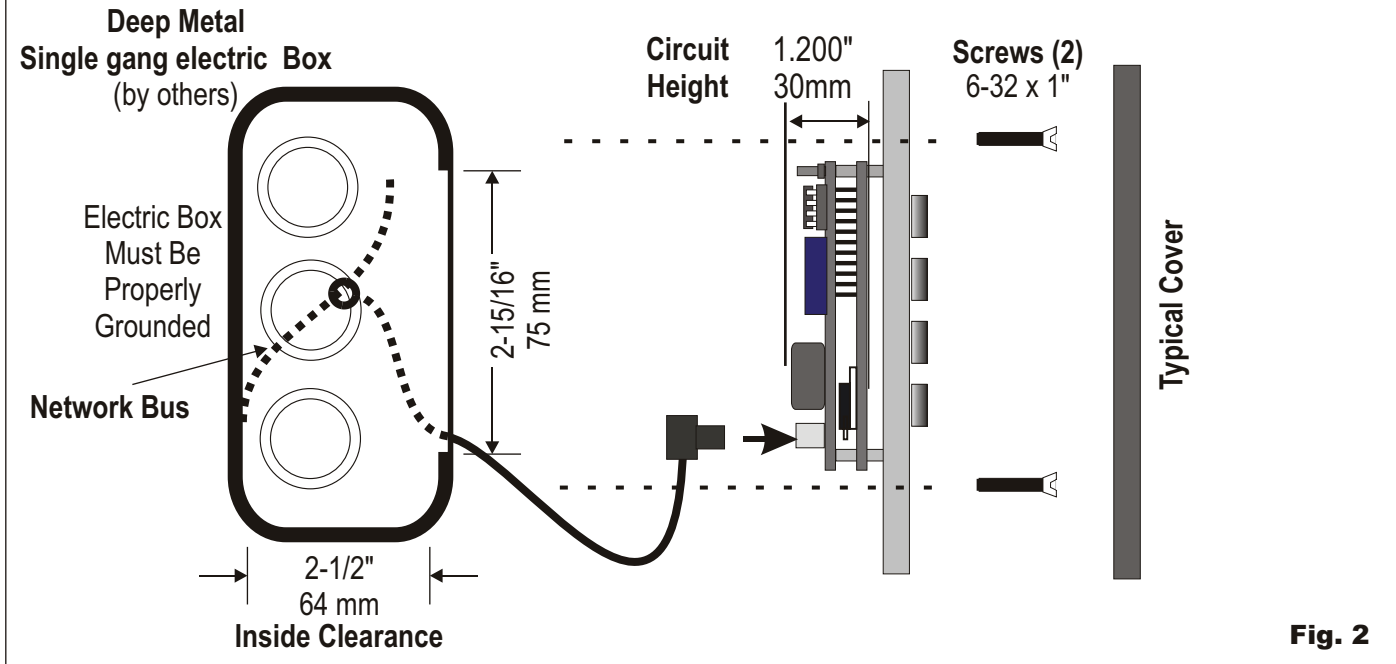

Fig. 2
1. Install the **WC-DMX-S** in a convenient location. Fig. 6 shows a **WC-DMX-S** wiring. **WC-DMX-S** is mounted in a deep single gang box and hard wired to DATA and 9V powerthrough a 2 twisted pairs cable (See Fig. 2).